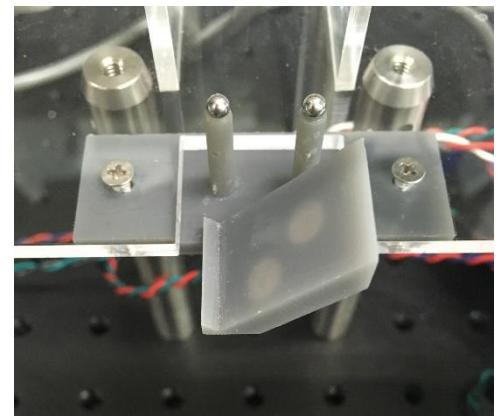

Figure 68 Touchposts and mirror mount installed
- See Figure 68 for the results of this step.